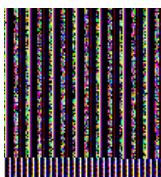

Figure 26 Autosampler fully installed.
- 2 Once it is installed, gently spin the Autosampler to ensure proper pin alignment. The tray should sit flat, as shown in Figure 26.